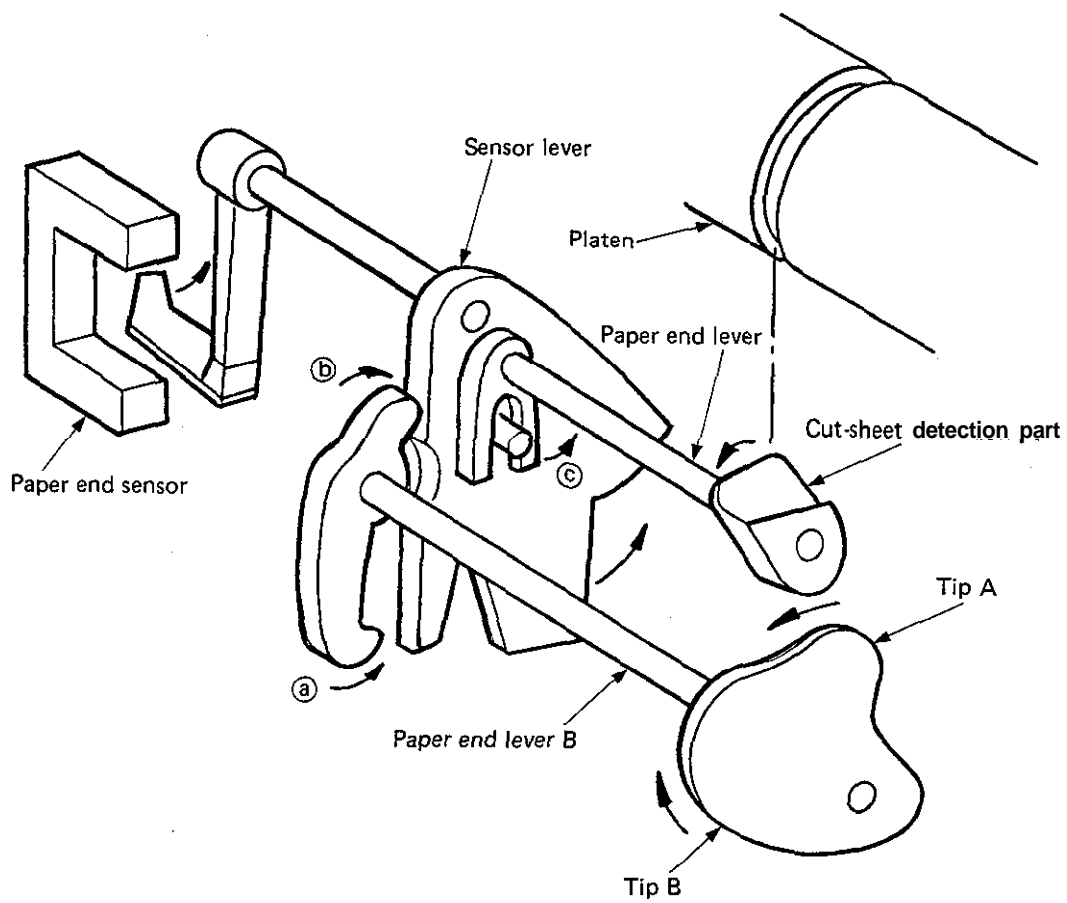

Figure 3-13
3.2.6 Paper end detection mechanism (See Figure 3-13.)